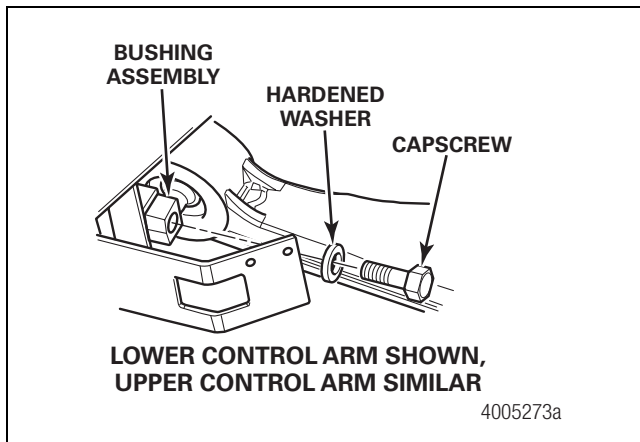

Figure 7.9
- Position the lower control arm onto the frame. Support the lower control arm. Install the four capscrews and washers that secure the lower control arm to the frame. The capscrews will be M18 or M20 depending on the suspension. Tighten the M18 capscrews to 225-273 lb-ft (305-370 N•m). Tighten the M20 capscrews to 369-480 lb-ft (500-650 N•m). Figure 7.9.